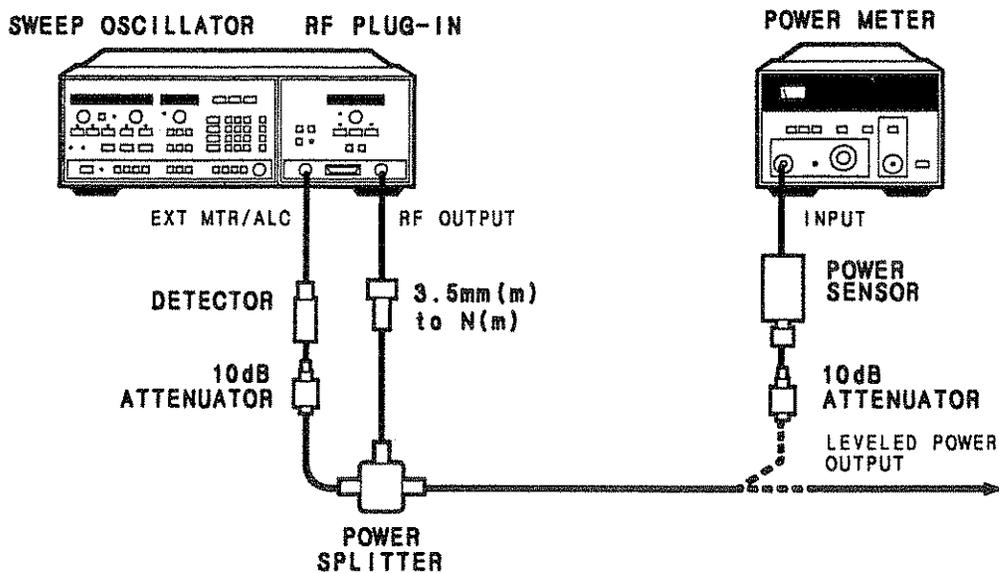

Figure 3-7. External Crystal Detector Leveling Set Up
1. Connect the equipment as shown in Figure 3-7. Turn the instruments on and allow them to warm up for at least 30 minutes.
4. To use leveled RF power output to test external equipment, make the connection at the point marked Levelled Power Output in Figure 3-7.